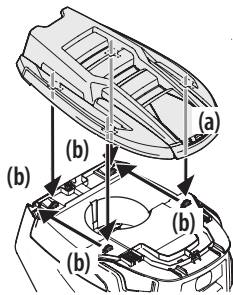

Figure 6
- To install the snap-on hood topper (a), line up the holes on the hood topper (a) with the tabs (b) in the hood frame as shown in Figure 6.
- Insert the tabs (b) into the hood topper and pull back to lock into place. See Figure 6.